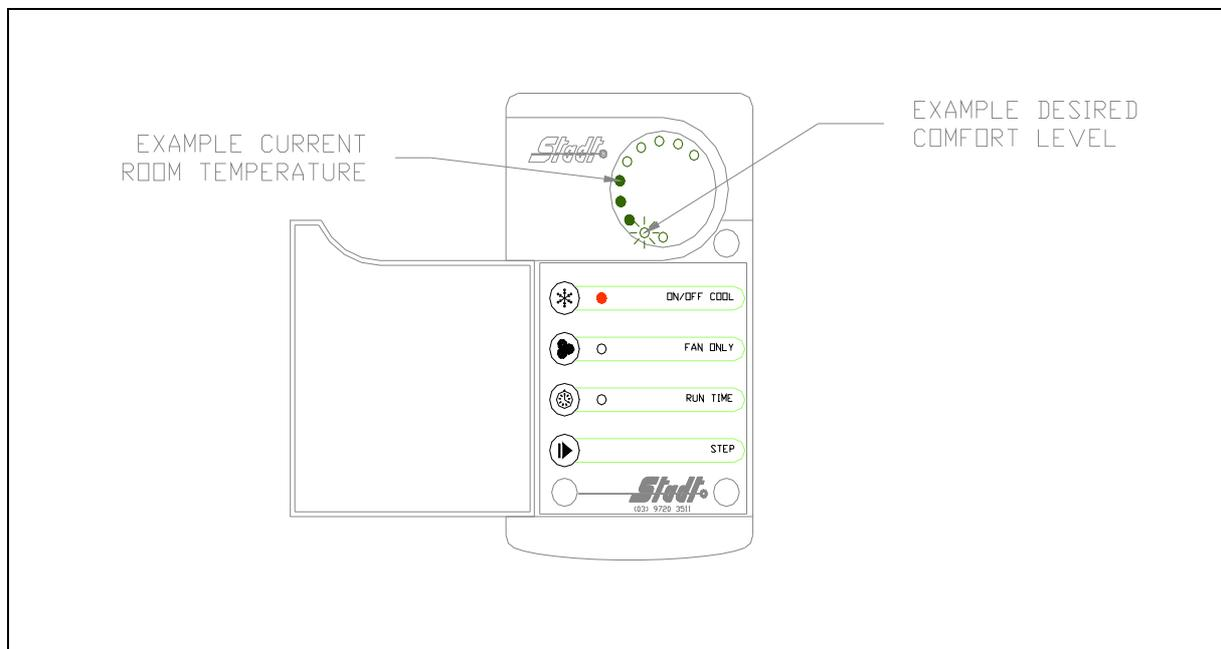
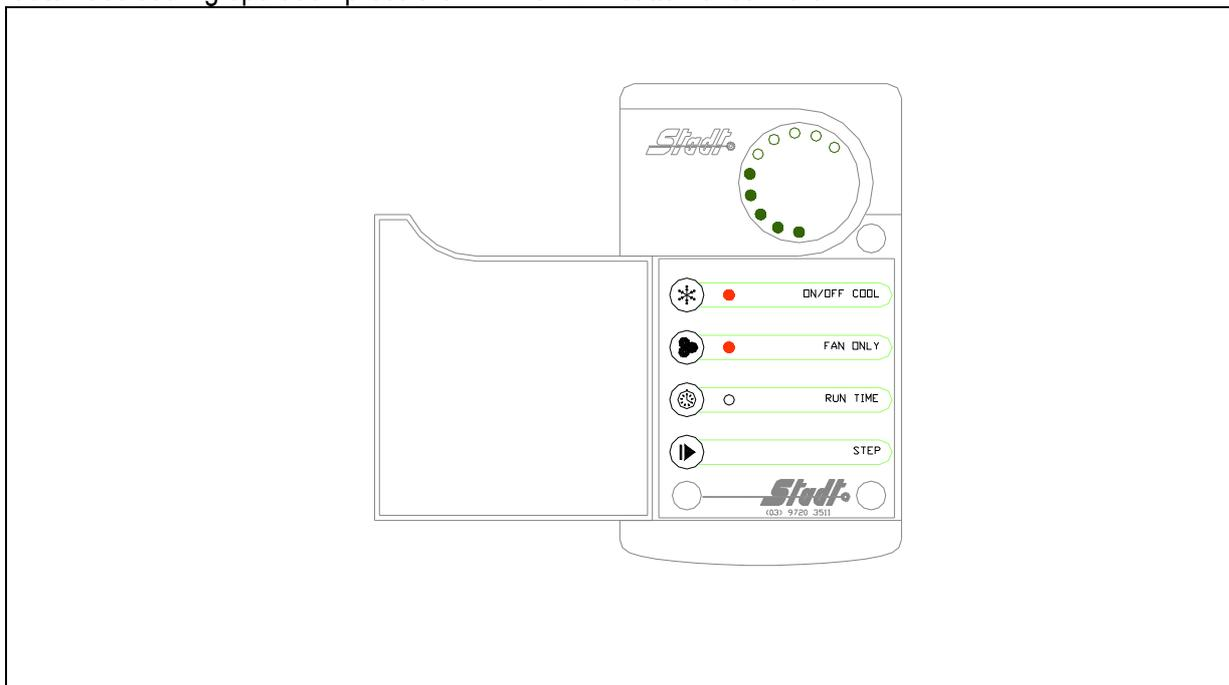
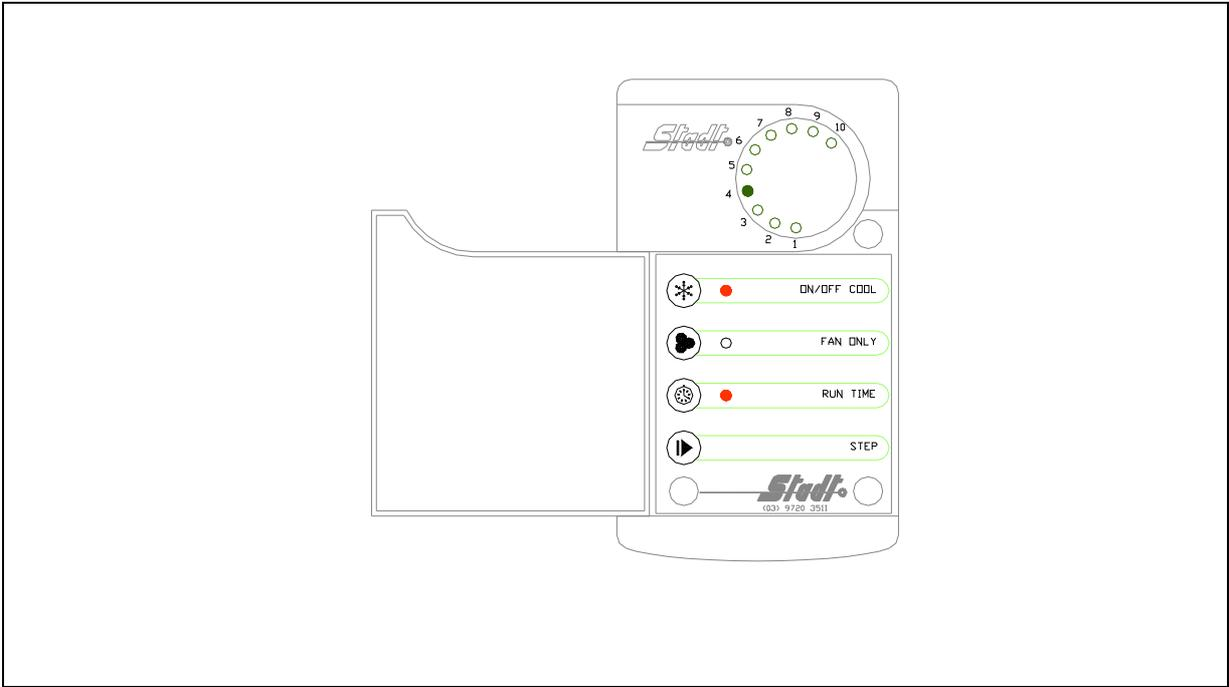

Figure 1. Wall controller showing automatic cooling operation.
Figure 2. Wall controller showing manual fan operation.
Figure 4. Wall controller showing changes in run time.
This section explains how to operate your Stadt Glacier evaporative cooler, and the functions of each of the buttons featured on the evaporative cooling wall controller. Figure 1 shows the controller for your evaporative cooler. It features four buttons which are used to control the operation of the unit, and an array of lights which are used to display the operation of the unit.
If the unit is operating and you press the “RUN TIME” button all the light indicators will go blank. If you press the “STEP” button the lowermost light will be illuminated. This indicates that the unit will turn off in one (1) hour (the off time). Each subsequent press of the “STEP” button delays the unit turning off by one more hour. This will be indicated by the light moving clockwise around the dial as shown in Figure 4. If having reached the ten (10) hour mark and the “STEP” button is pressed again the off time will return to zero (0). If the “RUN TIME” button is pressed again the display will return to the state it was in before activating the “RUN TIME” button for the first time, i.e. it will return to that shown in Figure 1 or Figure 2, depending on which mode the unit is operating. The light beside the “RUN TIME” button will now flash, indicating the number of hours left before the unit turns off. At ½ an hour to the turn on or turn off time the small red light beside the “RUN TIME” button will flash rapidly, until the unit either turns on or off.
If the unit is not operating and the “RUN TIME” button is pressed this will set the time at which the unit will turn on. If you press the “STEP” button the lowermost light will be illuminated. This indicates that the unit will turn on in one (1) hour, the “on time”. Each subsequent press of the “STEP” button delays the unit turning on by one more hour. This will be indicated by the light moving clockwise around the dial as shown in Figure 4. Unlike in Figure 4 the lights beside either of the “ON/OFF COOL” or “FAN ONLY” button will not be illuminated, as the unit is not currently operating. Again, if having reached the ten (10) hour mark and the “STEP” button is pressed again the on time will return to zero (0). Pressing the “RUN TIME” button a second time will clear the main display of lights. The light beside the “RUN TIME” button will now flash, indicating the number of hours left before the unit turns on. Having counted down to the on time the unit will automatically turn on and select the lowest temperature setting which also automatically sets the fan speed.